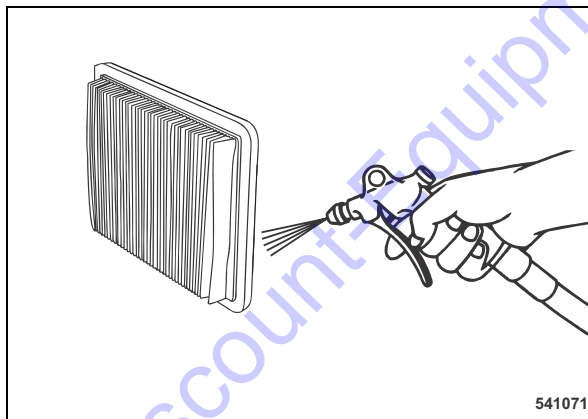

Fig. 75
- In case of dry fine dust blow out the air filter carefully from inside to outside with dry, clean compressed air (Fig. 75) (max. 2 bar (29 psi)).